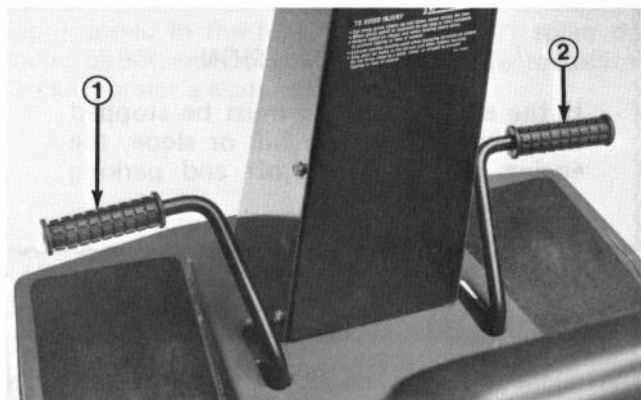

Figure 9
Clutch Pedal (Fig. 9) — Foot operated clutch pedal is used in conjunction with the gear shift and brakes. Depress clutch fully when shifting gears or braking.
Brake Pedal (Fig. 9) — Foot operated pedal, which when depressed, actuates a disc brake assembly at the side of each transmission. Clutch pedal must also be depressed while braking.
3. To release the parking brake, depress brake pedal (Fig. 9), and push parking brake lever (Fig. 11) down to return it to its disengaged position. Release brake pedal slowly.